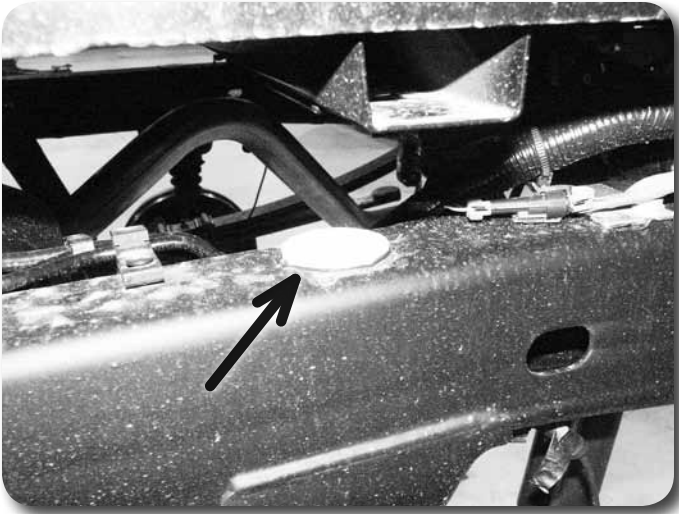
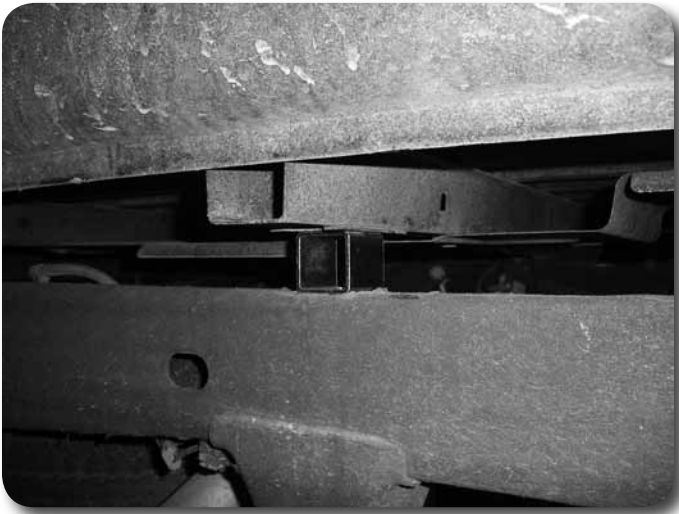

Figure 17A
Figure 17B
4. Remove the plastic bed pads **Figure 17A** where the bed crossmember rested on the frame at the rear wheel well (one per side). Install the provided rectangular steel bed spacers where the plastic pads were located and fasten with the ribbed shank plastic clips in the existing frame hole **Figure 17B**.